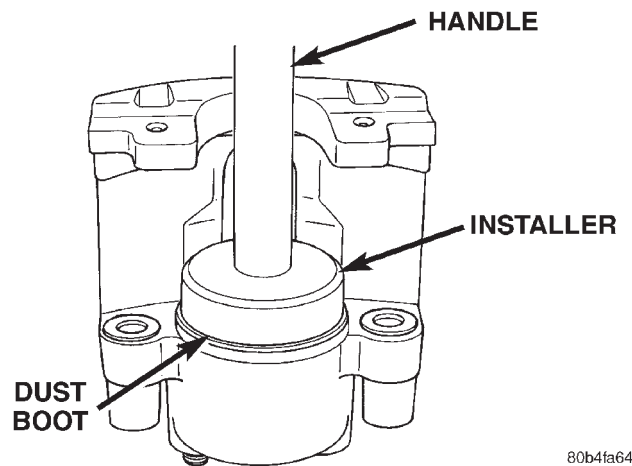

Fig. 80 Piston Dust Boot Installation
- (6) Seat dust boot in caliper with Installer 8280 and Handle C-4171 (Fig. 80).